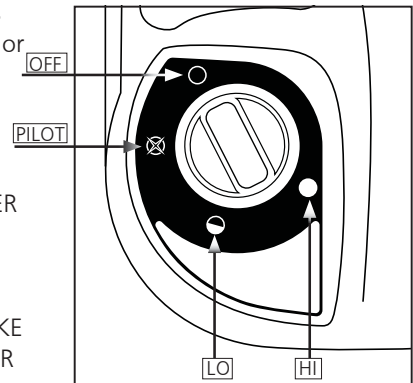
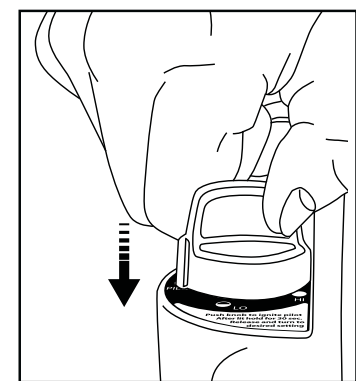

Figure 1: Control Knob
Figure 3: Ignition
- Make sure four-position Control Knob is in "OFF" position: see Figure 1.
- Turn Control Knob counterclockwise to "PILOT" position  and depress to light; see Figure 1 and Figure 3.
- After burner tile has turned bright orange, adjust heat output by turning Control Knob to desired position ("LO"  or "HI"  setting) Figure 1.